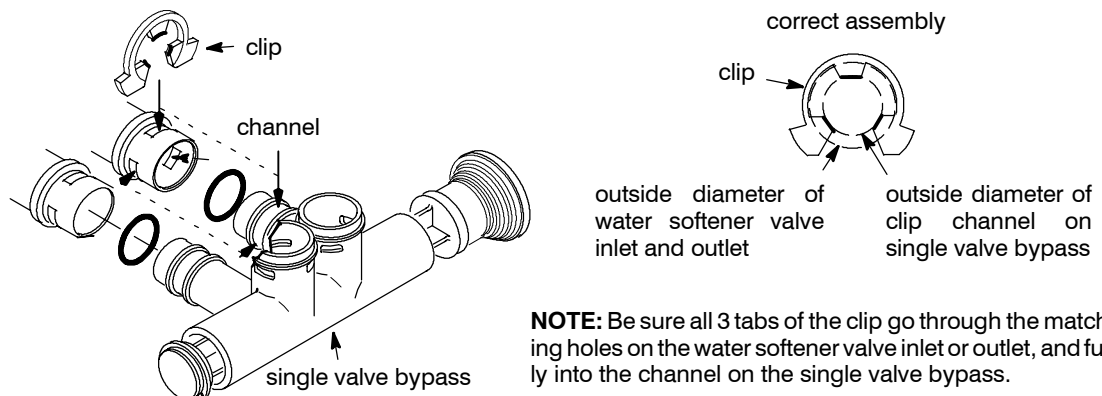

Figure 8
5. Push the single valve bypass into the softener valve as far as it will go. Snap the two large holding clips into place, from the top down as shown in Figure 8.